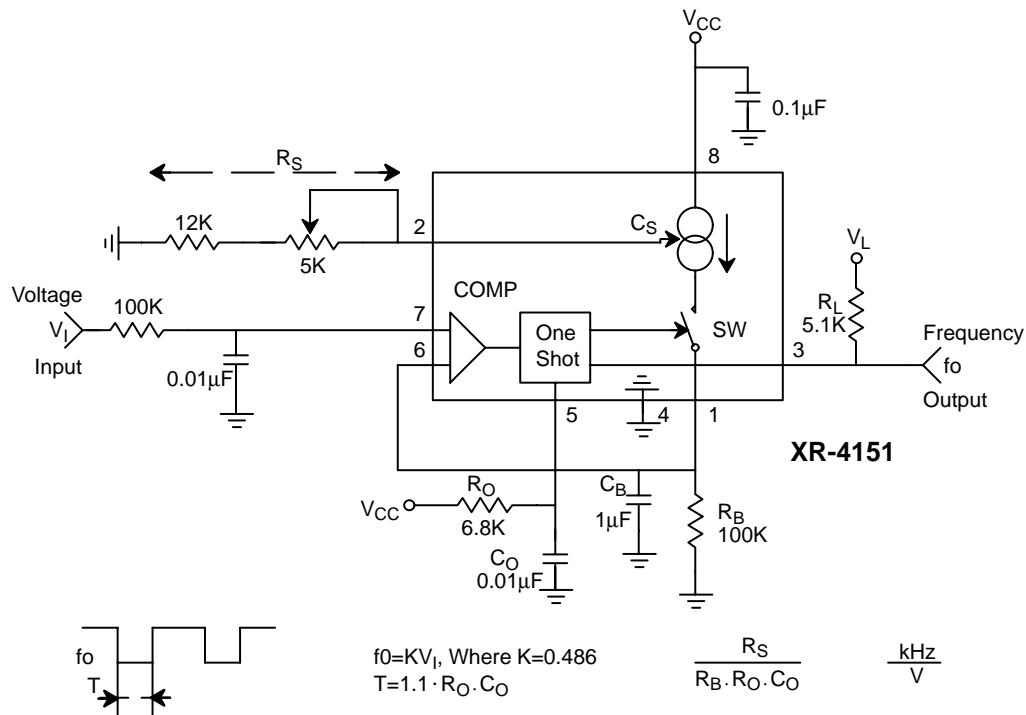

Figure 2. Voltage-to-Frequency Converter
In this application, the XR-4151 functions as a stand alone voltage-to-frequency converter operating on a single positive power supply. Refer to the functional block diagram and *Figure 2*, the circuit connection for single supply voltage-to-frequency conversion. The XR-4151 contains a voltage comparator, a one-shot, and a
Figure 2 shows the simplest type of VFC that can be made with the XR-4151. The input voltage range is from 0 to +10V, and the output frequency is from 0 to 10kHz. The full scale frequency can be tuned by adjusting  $R_S$ , the output current set resistor. This circuit has the advantage of being simple and low in cost, but it suffers from inaccuracy due to a number of error sources. Linearity error is typically 1%. A frequency offset will also be
introduced by the input comparator offset voltage. Also, response time for this circuit is limited by the passive integration network  $R_B C_B$ . For the component values shown in Figure 2, response time for a step change input from 0 to +10V will be 135msec. For applications which require fast response time and high accuracy, use the circuit of Figure 3.
The operational amplifier integrator improves linearity of this circuit over that of *Figure 2* by holding the output of the source, Pin 1, at a constant 0V. Therefore, the linearity
4. Avoid stray coupling between pins 5 and 7; it could cause false triggering. For the circuit of Figure 2, bypass pin 7 to ground with at least  $0.01\mu\text{F}$ . This is necessary for operation above 10kHz.
3. a) For the circuit of *Figure 2* make  $C_B = 10^{-2} [1/f_0]$  Farads.